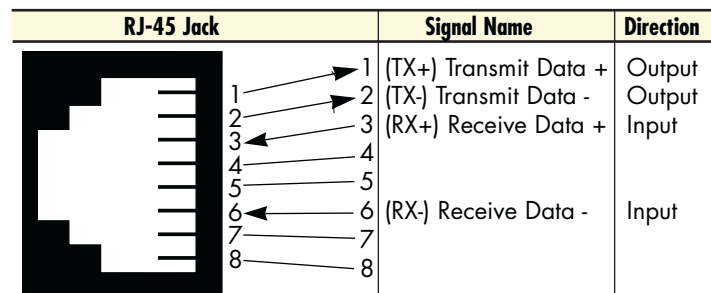
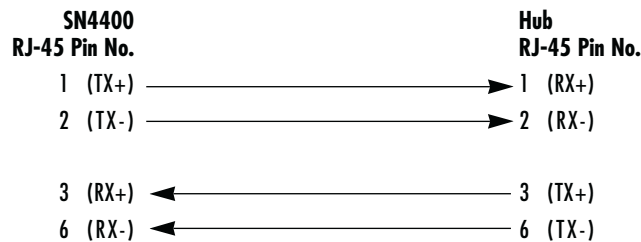
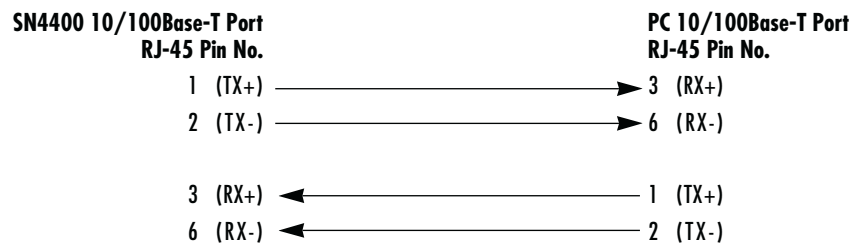

Figure 7. Model SN4400 Ethernet port
Figure 8. Straight-through RJ-45-to-RJ-45 Ethernet cable diagram
Figure 9. Cross-over RJ-45-to-RJ-45 Ethernet cable diagram
**Connecting the 10/100Base-T Ethernet ports to an Ethernet switch or hub.** The 10/100Base-T Ethernet port is designed to connect to an Ethernet switch or hub with a straight-through or cross-over Ethernet cable. The Ethernet RJ-45 pin and signal definitions for the SN4400 or for a NIC card in a workstation/PC are shown in figure 7. Connect a CAT-5 cable (one wired as shown in figure 8 or figure 9) between the SN4400 and the hub/switch.